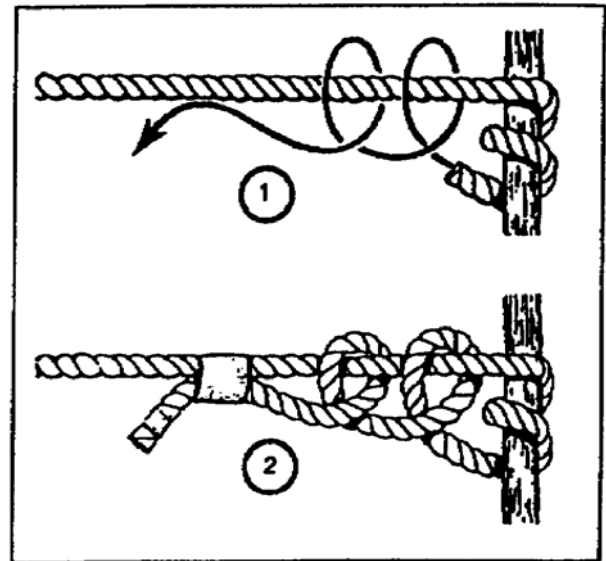

Figure 4-29. Round turn and two half hitches
h. Round Turn and Two Half Hitches. Another hitch used to fasten a rope to a pole, timber, or spar is a round turn and two half hitches (Figure 4-29, page 4-22). For greater security, seize the running end of the rope to the standing part. This hitch does not jam.